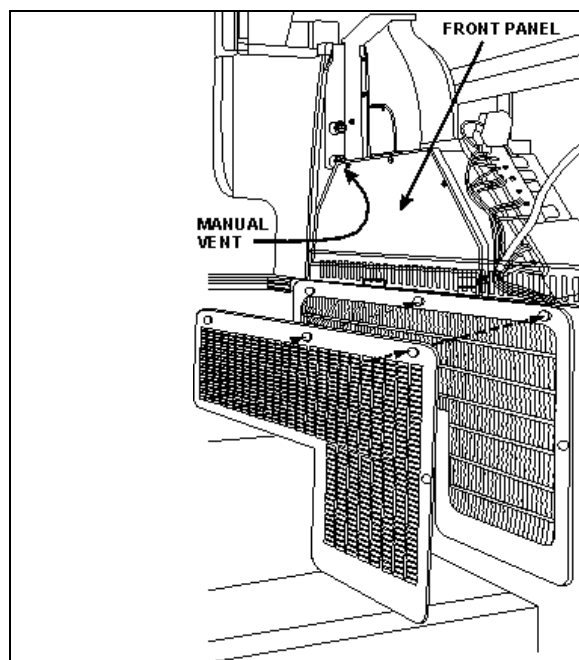

FIGURE 38: DRIVER'S HVAC UNIT
4. From inside of vehicle, remove the two finishing panels in front of unit. Remove the three screws fixing the unit front panel. Open the manual vent located inside the HVAC unit, on the driver's side (Fig. 38) to ensure an efficient draining.